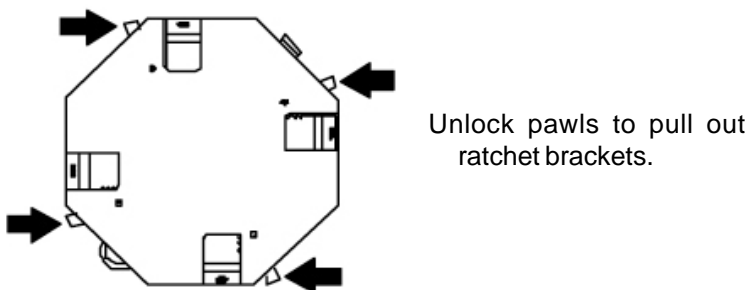

Figure 3
7. Push in the 4 ratchet brackets on saddle assembly firmly to grab the edges of transmission housing. (see Figure 3)